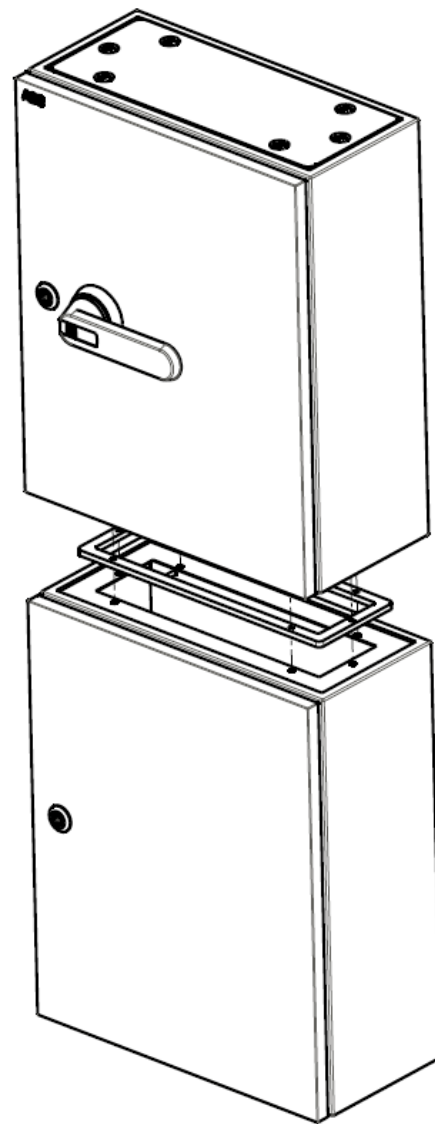

Figure 2
- Attach supplied Mating gasket direct to top surface of spreader box. (see figure 2)